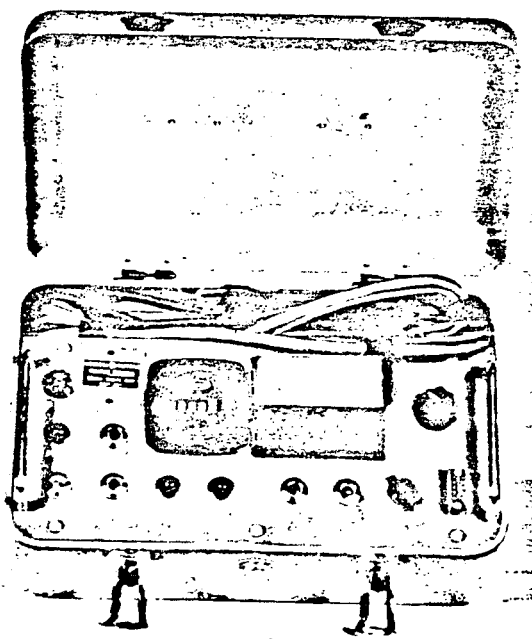

Figure 21. (8039962) Power Sensor Test Kit
3. A PST-1 Power Sensor Test Kit must be available. (Figure 21). Check the Power Sensor Unit for correct function for each pick-up setting and one point on each time delay characteristic. Then check for the correct operation of each phase of the Power Supply Unit. This procedure is described in the instruction manual (GEK-7301) for the PST-1 Test Kit, and GEK-7309 Power Sensor Instructions. If the test results for this test do not deviate more than 10% from the published curves, proceed to step 4. If the deviation is more than 10% contact the factory for possible replacement of the Power Sensor Unit.